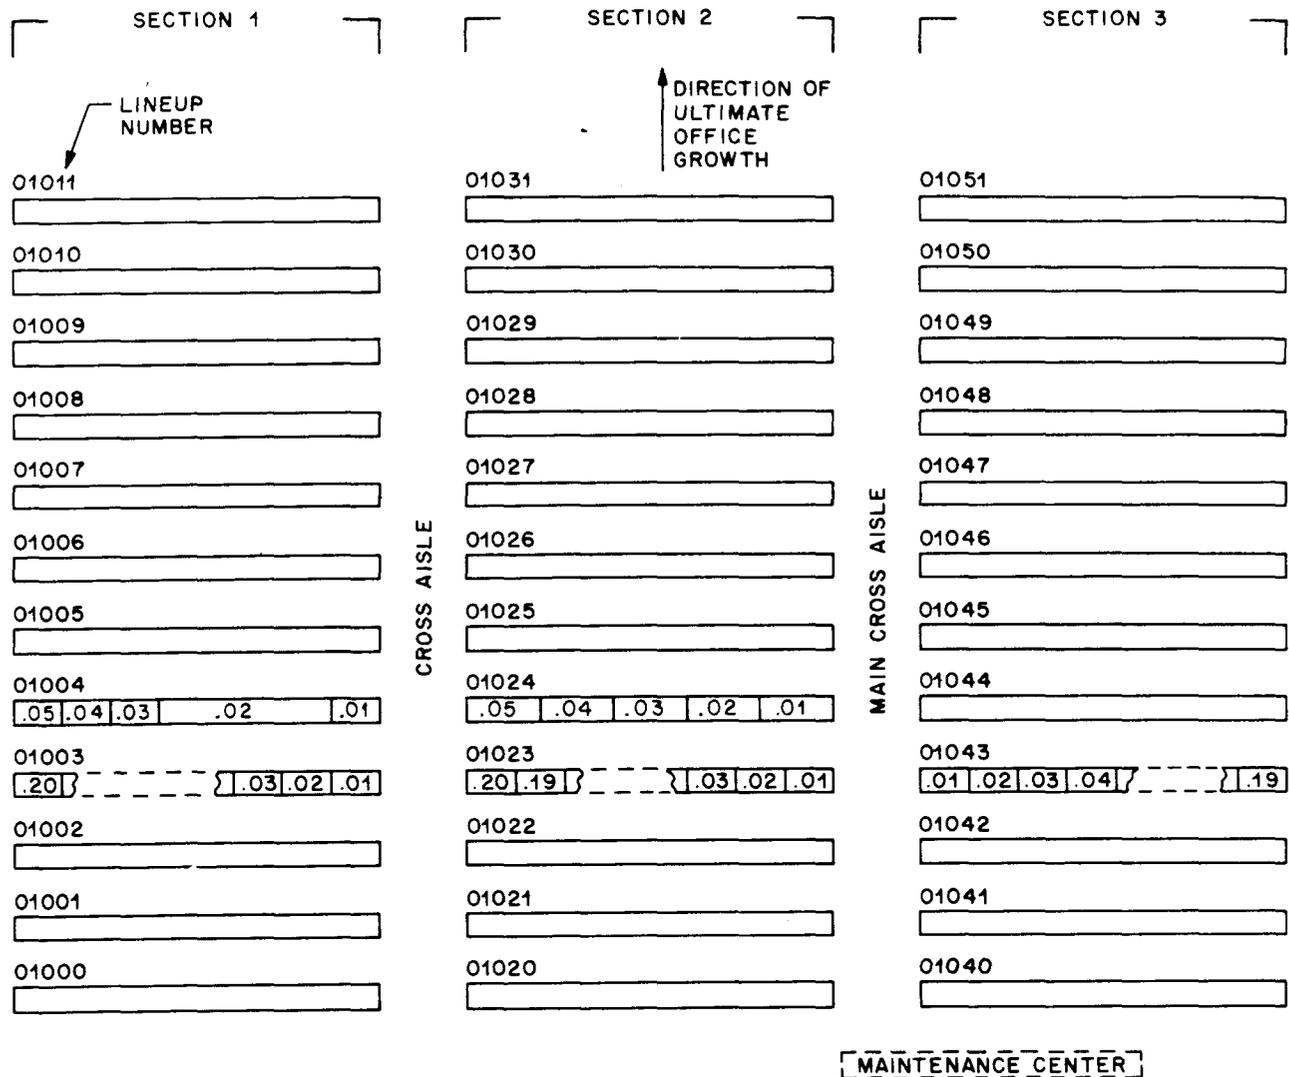
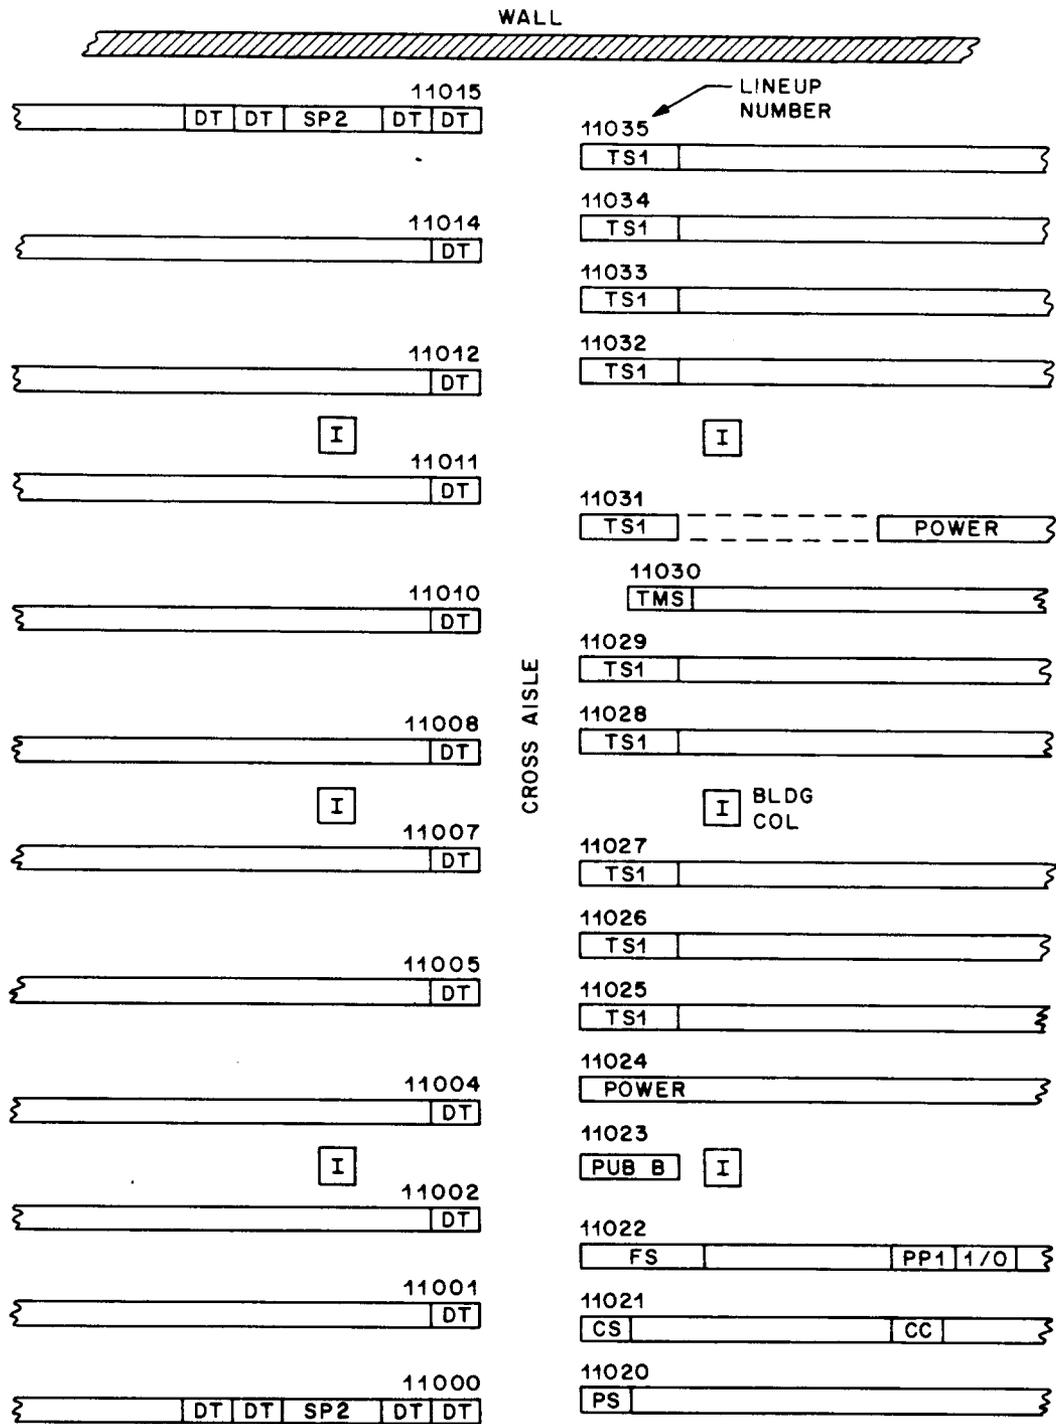

Fig. 1—Typical FLN Numbering Within Sections
Fig. 2—Typical Lineup Number Assignment When Different Quantities of Lineups Are Arranged Between Building Columns in Adjacent Sections
**2.01** A *lineup* is one continuous line of frames extending from one cross aisle to the next cross aisle. It may be broken by a column or space for future frames. The lineups between two cross aisles are referred to as a section in Fig. 1.
(b) Lineup numbers should be reserved in groupings of ten to accommodate the ultimate office growth and to assure a consecutive numbering arrangement within each section of lineups. The next section of lineups should start with the next group of ten to ensure that each row of continuous lineups has the same last digit. See Fig. 1. If frame requirements are such that the number of lineups in one section differs from the number of lineups in adjacent sections, because of building columns, it is permissible to skip lineup numbers to obtain commonality in the last digit of line numberings. See Fig. 2.